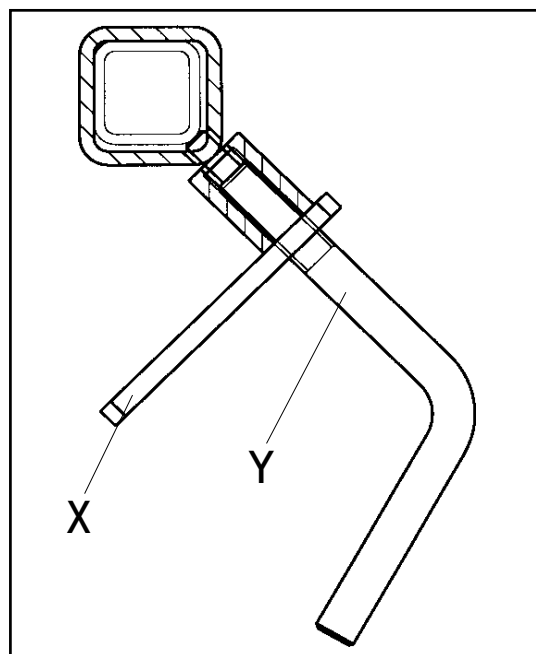

Figure 4-6
- Open the yoke "X" and loosen the toggle screw "Y" (figure 4-6)
- Tighten the toggle screw "Y" and secure it with the yoke "X" (figure 4-6)